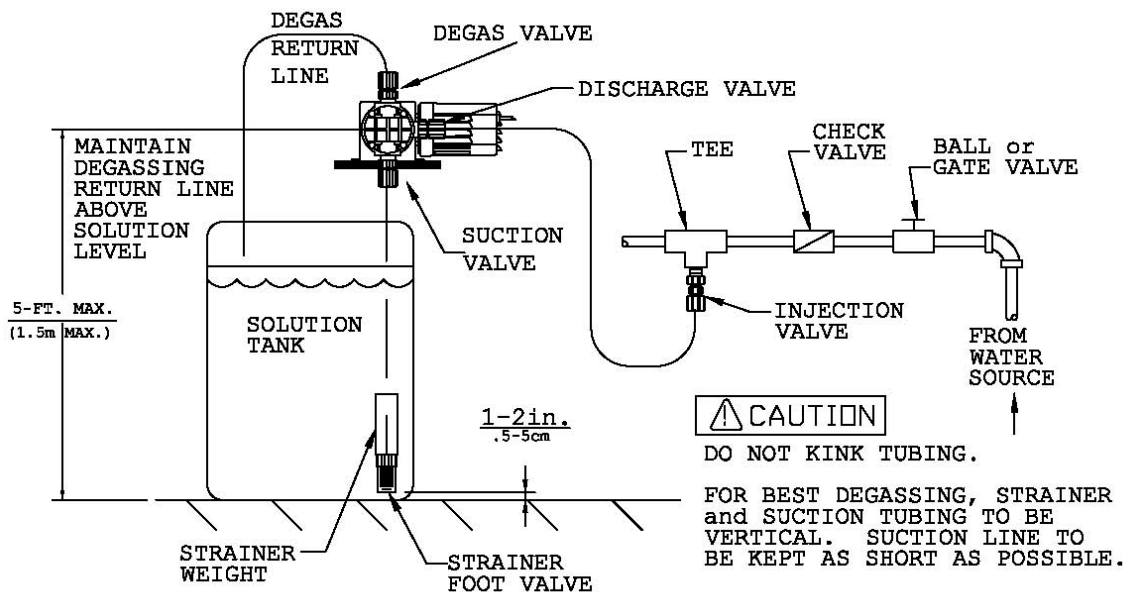

Figure 1
The degassing head is designed to return a small percentage of the pumps output back into the tank through the degas valve when the pump is operating. The fluid that is being returned via the return line to the tank is part of the normal operation of the degassing head. As a result, the pumps maximum output will be reduced and its output should be verified and adjusted as necessary. Install the pump as show in figure 1 while adhering to the following installation instructions:
2. Slide the other end of the suction tubing through the strainer weight and install the foot valve on the end, see figure 1.
**TIP:** For best results, insure the strainer / tubing hangs vertically and is as short as possible with the strainer near the bottom of the solution tank but above any sediment, see figure 1.